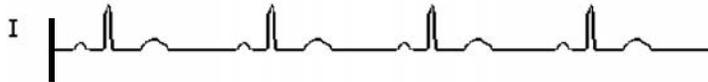

Figure 5-3: ECG Baseline
- e. Verify that the ECG baseline is centered with an ECG signal present (± 4 pixels). See "Figure 5-3: ECG Baseline".